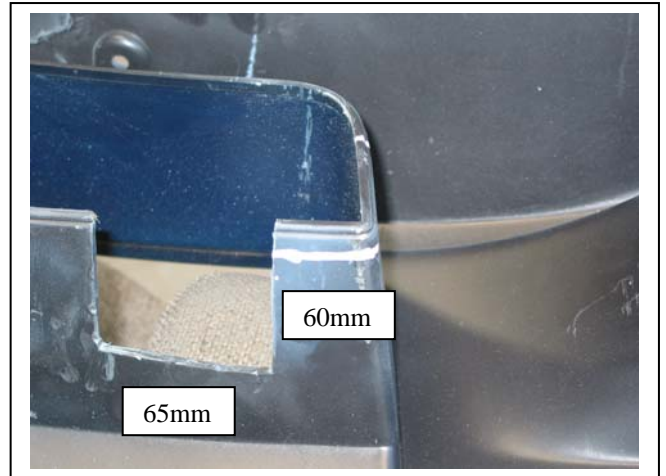

Figure 6 – Passenger side shown
19. Trim rear of air vent section in bumper cover to fit over steel mounting brackets. Refer to **figure 6** for details.